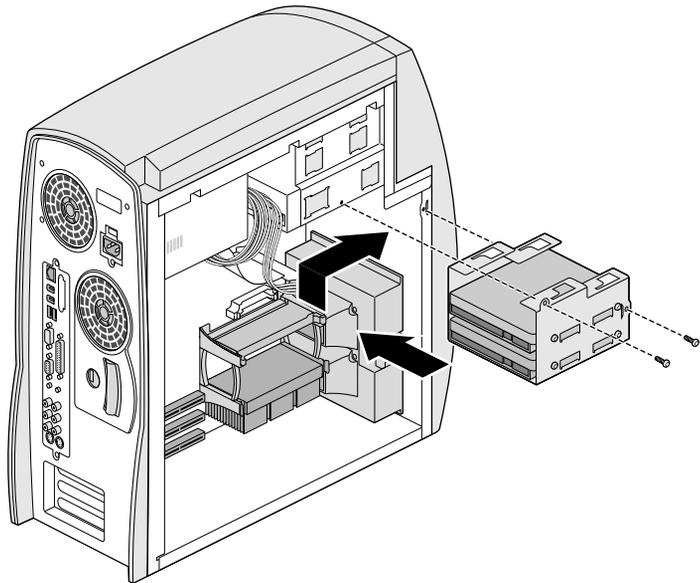

Figure 4-13 Installing the Internal Hard Drive Bracket
11. Install the bracket in the drive slot, as shown in Figure 4-13.